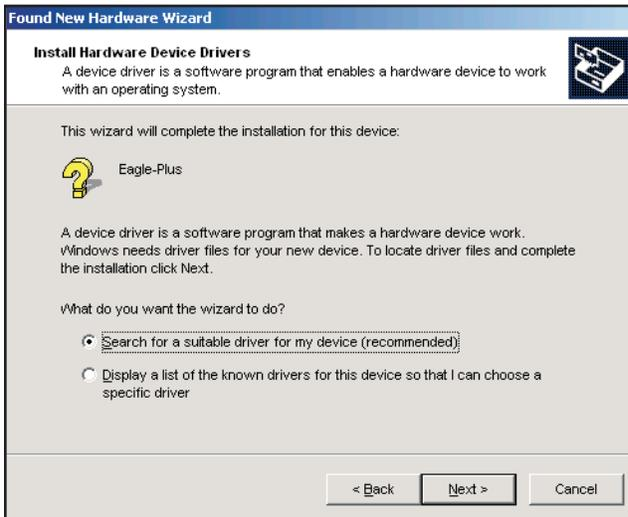

Figure 6 The Install Hardware Device Drivers Screen
3. On the next screen (Figure 6), select the Search for a Suitable Driver button.